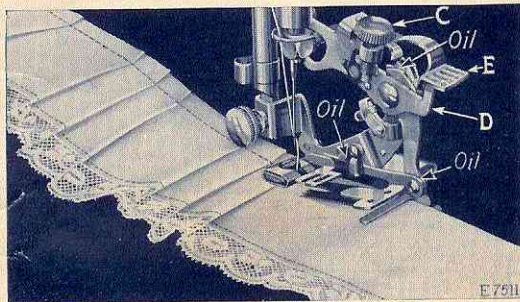

Fig. 32
The ruffler can be adjusted for group plaiting by lifting the adjusting lever (E, Fig. 32) and moving
it to the right so that the top of the projection (D, Fig. 32) engages the small slot indicated by the star on the adjusting lever. This should be done at the points where you wish to make the space between the plaits. The ruffler will then stop and plain stitching will be made. When the desired space has been made, adjust the lever (E) so that the projection (D) enters either the slot marked "6" or the slot marked "12." By alternately making groups of plaits and plain spaces, as shown in Fig. 32, very attractive work can be produced.
Occasionally apply a drop of oil to the working parts of the ruffler at each of the places indicated by arrows in Fig. 32. After oiling, operate the ruffler on a waste piece of material to prevent the oil soiling the work. If the ruffler does not plait evenly, a drop of oil may remedy the trouble.